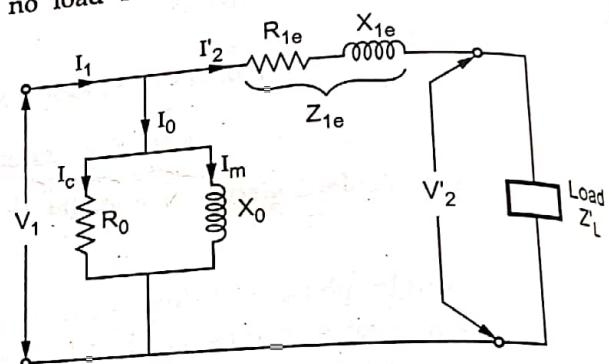

Fig. Q.16.3 Approximate equivalent circuit referred to primary
- Such an equivalent circuit is called approximate equivalent circuit as in this circuit the drop across  $R_1$  and  $X_1$  due to  $I_0$  is neglected. The Fig. Q.16.3 shows an approximate equivalent circuit referred to primary.